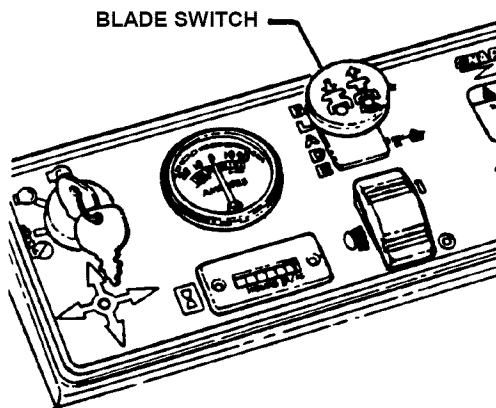
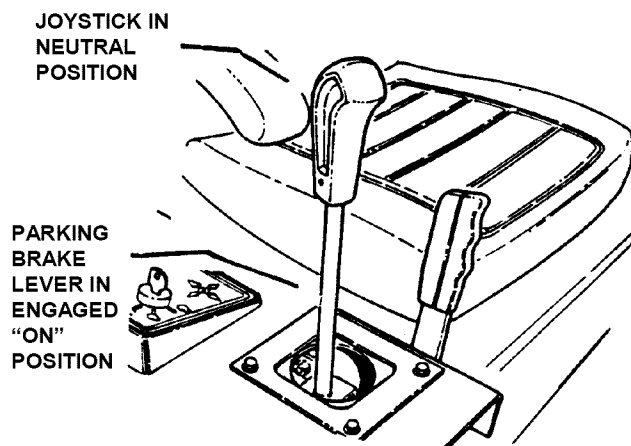

FIGURE 2.2
FIGURE 2.6
2.1.4. Check Blade switch to insure it works freely. Switch is pulled "OUT" for blade engagement or pushed back "IN" for blade disengagement. See Figure 2.2. **IMPORTANT:** Disengagement stops blades.
3. Push blade switch in to "OFF", blades disengaged position and engage parking brake. See Figure 2.2 and Figure 2.6.
2. Pull the Blade Switch out to the "ON" position to engage the mower blades. See Figure 2.2.
NOTE: Motion control lever must be in the Neutral position to engage brake. See Figure. 2.6.